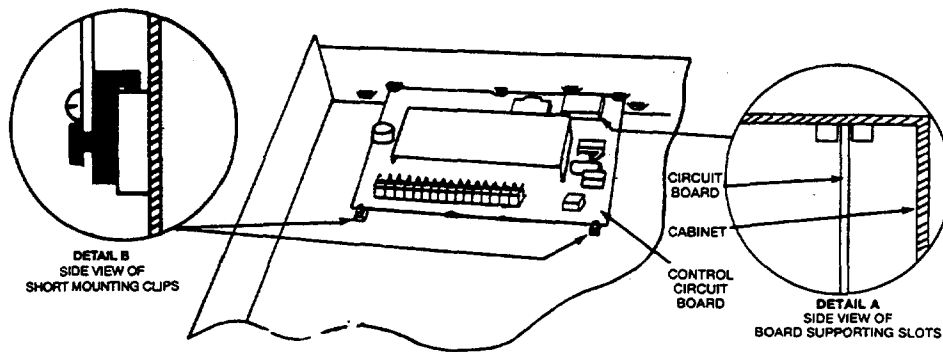

Figure 2. Mounting The PC Board In The Cabinet
Mounting The Control's Circuit Board In The Cabinet (Fig. 2)
1. Hang two *short Black* mounting clips (provided) on the raised cabinet tabs (see Detail B in Fig. 2).
3. Swing the base of the board into the mounting clips and secure the board to the cabinet with the accompanying screws (see Detail B in Fig. 2).